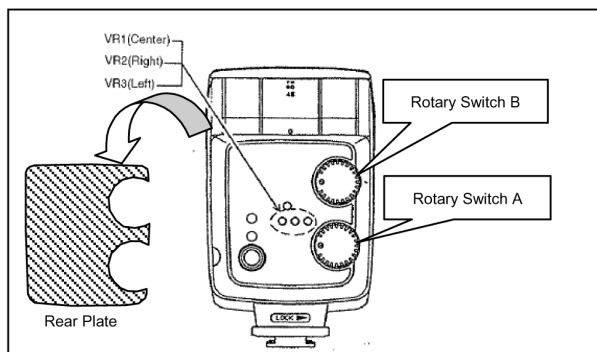

Fig.3-2
3. Set the Rotary switch A to "MANUAL" and Rotary switch B to TOP (Highest). (See Fig.3-2)
4. Peel off the Rear plate with tweezers. (See Fig.3-2)
2. Set the Rotary switch A to "AUTO" position. (See Fig.3-2)
7. Set the Rotary switch B to the lowest position. (See Fig.3-2)
10. Set the Rotary switch B to the middle position. (See Fig.3-2)
13. Set the Rotary switch B to the highest position. (See Fig.3-2)
2. Set the Rotary switch A to "MACRO-AUTO" position. (See Fig.3-2)